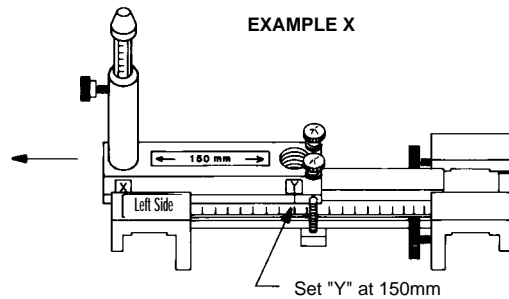

Figure 14
(Refer to Figure 13-Page 7 and Figure 14 below.)
- b) Set scribe line (under Y) at designated length (150mm). (See Figure 14.)
- c) Select vertical scale designated in vertical column (334). In this instance, the 284-530 scale is appropriate.